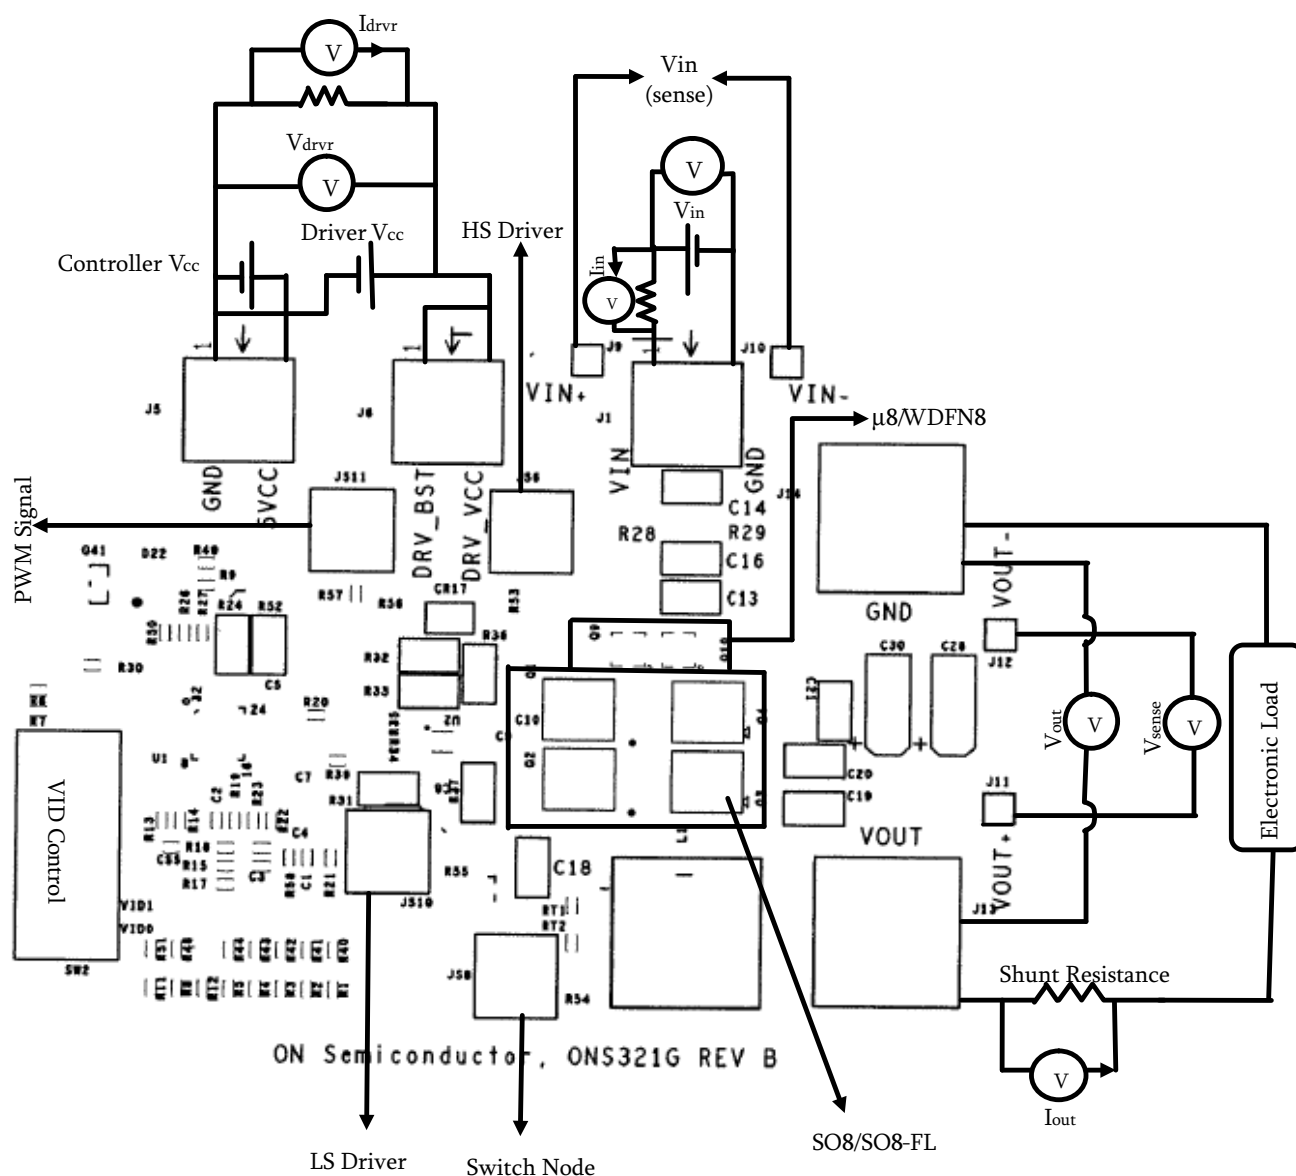

Figure 4. Schematic of the Test Setup
up for measuring these voltages and currents, and the meters required are shown in Figure 4. The currents are measured across the shunt resistances that are connected across each of the terminals of input, output and driver voltages as shown in Figure 4. For example, the output current is
The test set up, test points and components present on the ONS321G Evaluation Board are shown in Figure 4.
7. Connect the voltmeters/multi-meters to monitor the required parameters. (Refer to Figure 4).